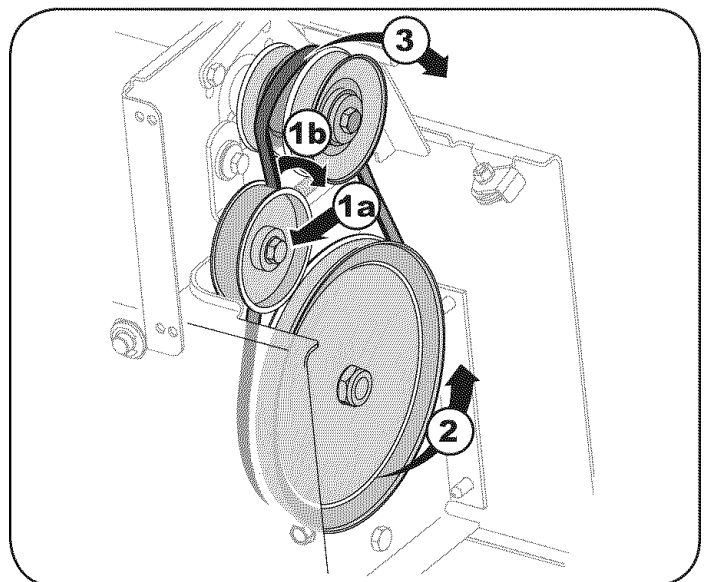

Figure 29
- Pull the idler pulley away from the backside of the drive belt to relieve the tension. See Figure 29.